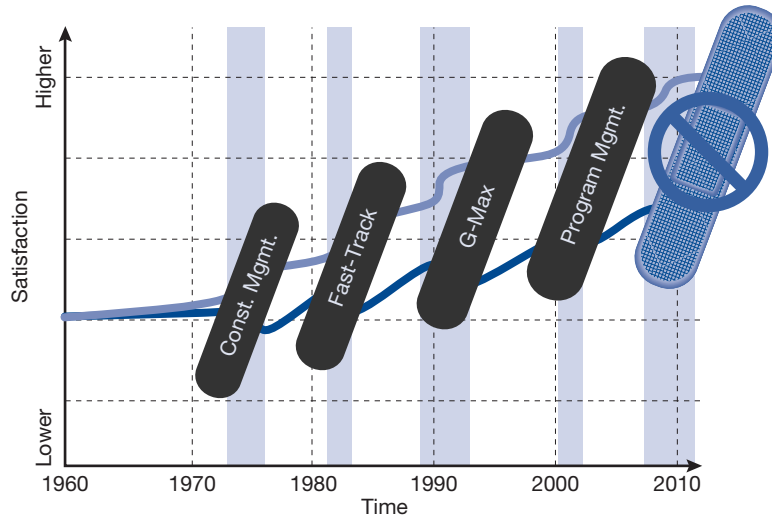

Figure 3.21 An end to Band-Aid solutions for the construction industry? Sam Spata, Architect, AIA, LEED® AP BD+C
**KF:** If you're asking have I encountered obstacles to realizing my potential—I would say yes, I have. There continues to be a discounting of women in design and construction. I do believe were I a man, with the same experience and intellectual capacity, I would be more highly respected than I am. I say something in a meeting and everybody ignores it; then a man says exactly the same thing and everybody thinks it's a great idea. (See Figure 3.21.)